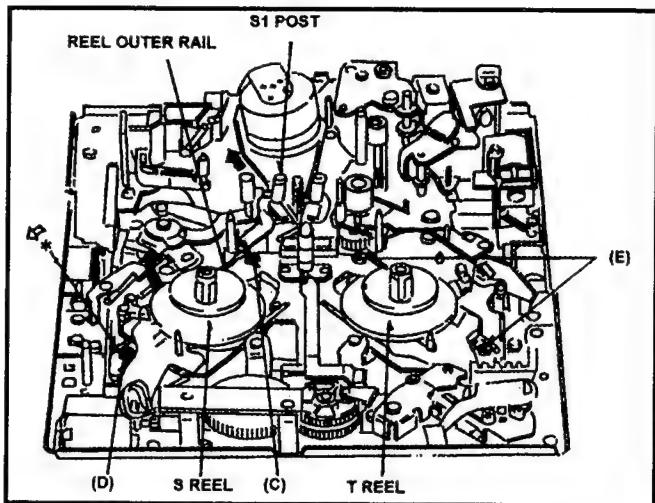
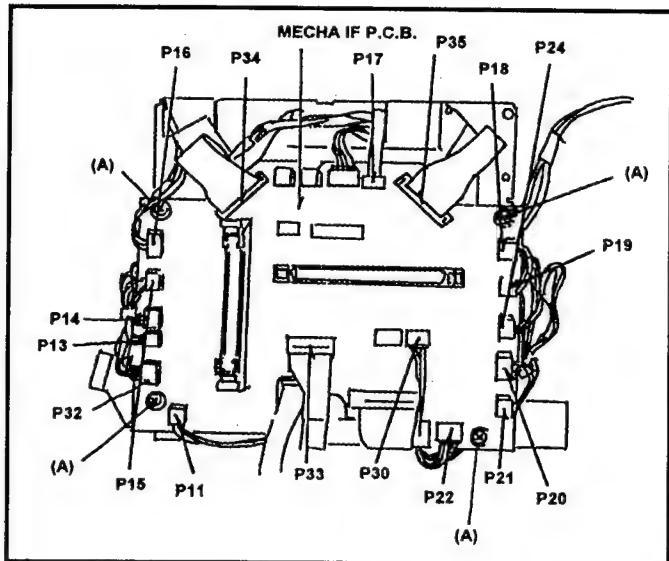
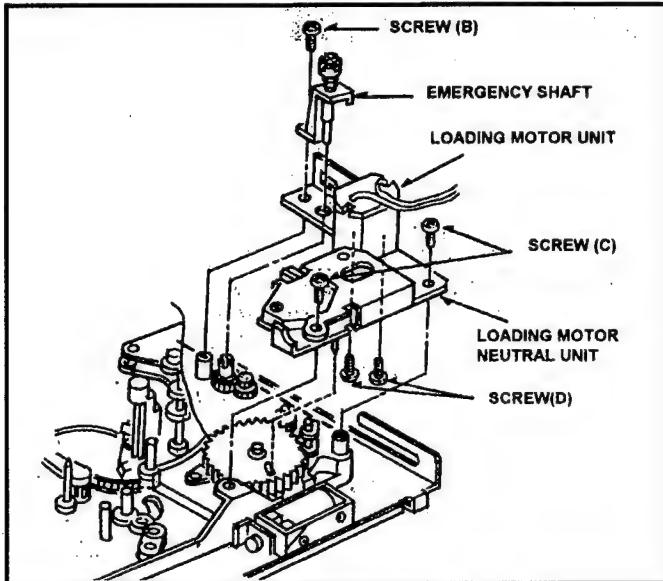
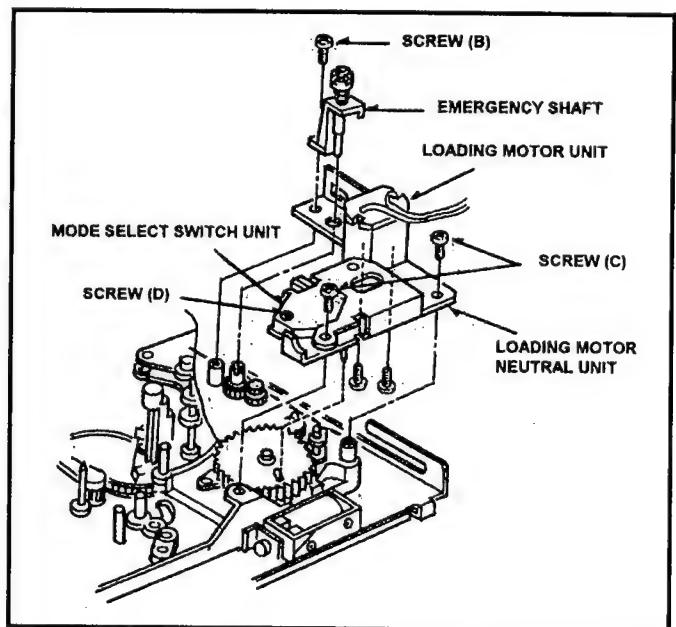

Fig. 4-4-1 Removal of S & T Reel Rotor Unit
Fig. 4-4-2 Connection of Mech I/F P.C. Board
Fig. 4-5-1 Removal of Motor Unit
Fig. 4-8-1 Removal of Mode Select Switch Unit
2. Disconnect the connector P34 and P35 on the Mech I/F P.C. Board as shown in Figure 4-4-2.
3. Move the S1 post to loading direction by manual ejecting method until the screw (C) can removing position.
6. Remove the 4 screws (C), (D) and (E) as shown in Figure 4-4-1.
1. Remove the Mechanical Unit (Refer to item 2-1, Removal of Mechanical Unit).
2. Disconnect the connector P21 on Mech I/F P.C.Board as shown in Figure 4-4-2.
3. Remove the Pinch Solenoid Unit (Refer to item 4-8).
4. Unscrew the screw (B), and remove the Emergency Shaft as shown in Figure 4-5-1.
5. Unscrew the 2 screws (C) and remove the Loading Motor Neutral Unit as shown in Figure 4-5-1.
6. Unscrew the 2 screws (D) and remove the Loading Motor Unit as shown in Figure 4-5-1.
2. Disconnect the connector P20 on the Mech I/F P.C.Board as shown in Figure 4-4-2.
2. Disconnect the connector P22 on the Mech I/F P.C.Board as shown as Figure 4-4-2.
3. Remove the Pinch Solenoid Unit and Loading Motor Neutral Unit (Refer to item 4-5).
4. Remove the screw (D) and remove the Mode Select Switch Unit from Loading Motor Neutral Unit as shown in Figure 4-8-1.